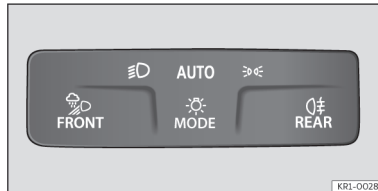

Fig. 95 Dash panel: light panel.
- Switch on the ignition and select mode **AUTO** on the headlight control >>> **Fig. 95.**
- Switching off mode **AUTO** on the headlight control >>> **Fig. 95.**